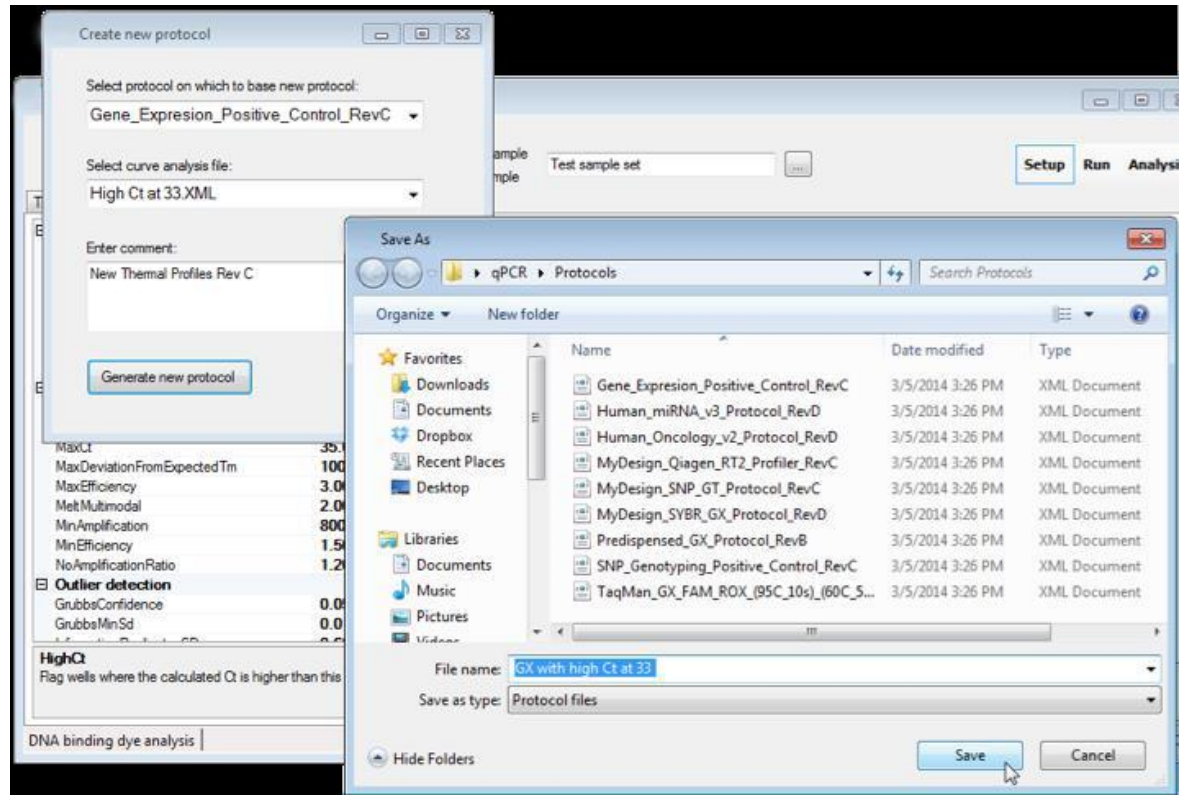

Figure 17. Saving your modified protocol.
- f. Click the [Generate new protocol] button and save the modified protocol file with a logical name (Figure 17).